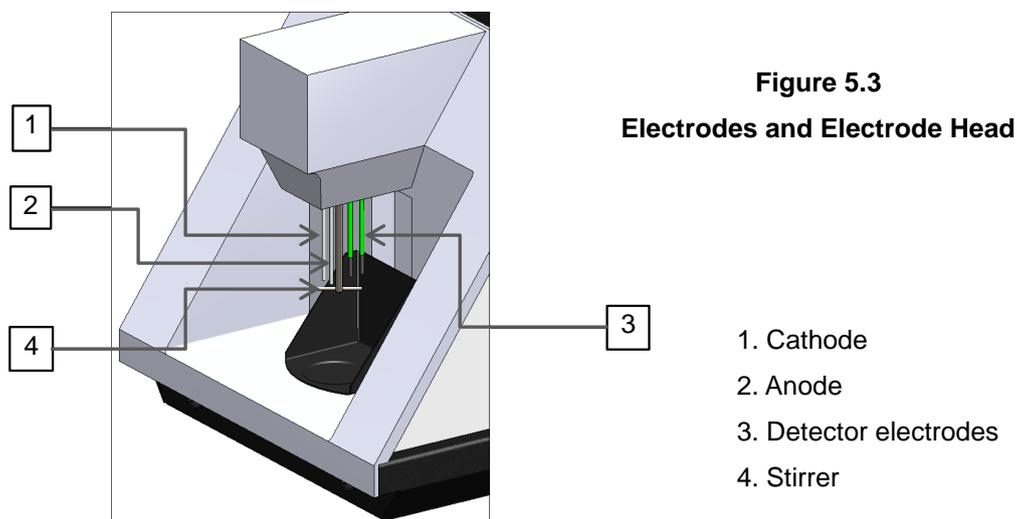

Figure 5.2 Rear Panel and Label detail
6. Position the M926S so that there is clear access to the on/off switch (Item1, Figure 5.2, p.12).
1. A Serial Cable (780-3051) is provided if you wish to use an external device. The small, round end of the cable fits into the socket on the rear of the M926S (Item 3, Figure 5.2, page 12) and the other end into the serial input socket of the external device - a printer or a computer serial interface.
The M926 also has USB B port that enables results to be sent to computers that do not have an RS232 serial comms. port. A USB cable (001 09 006) is provided. The squarer end fits into the socket on the rear of the M926 (Item 5, Figure 5.2, page 12).